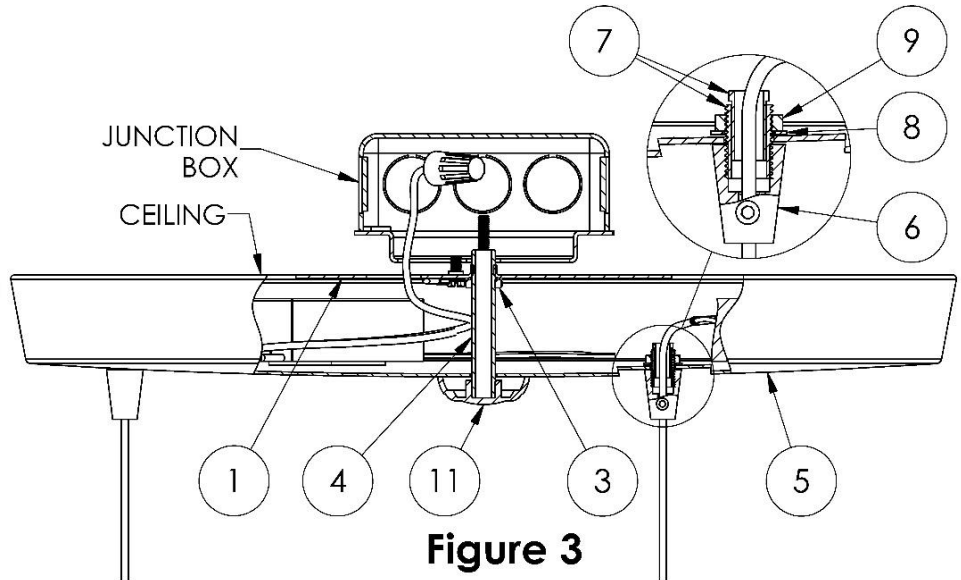

Figure 3
- Place the canopy (5) center hole onto the stem from the center of canopy plate (1) installed in **Step 1, D**. Insert any wires that may be protruding around the top of the canopy so it sits flush against the ceiling, **Figure 3**.